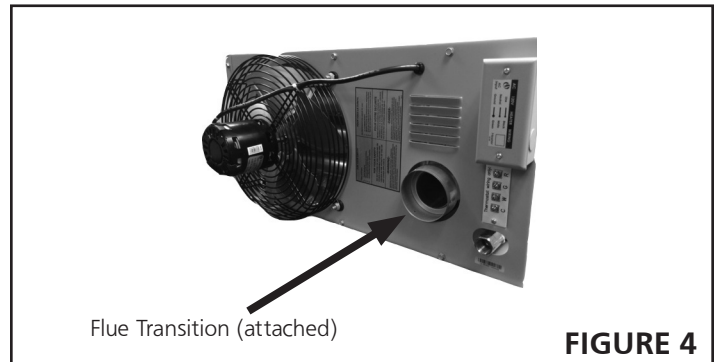

FIGURE 4
2. The vent pipe diameter for horizontal commercial installations shall be 4" (76mm). a transition piece has been supplied and is already attached to your heater. Refer to **Figure 4**.
2. The vent pipe diameter for horizontal residential installations shall be 4" on all units. A transition piece has been supplied and is already attached to your heater. Refer to **Figure 4**.